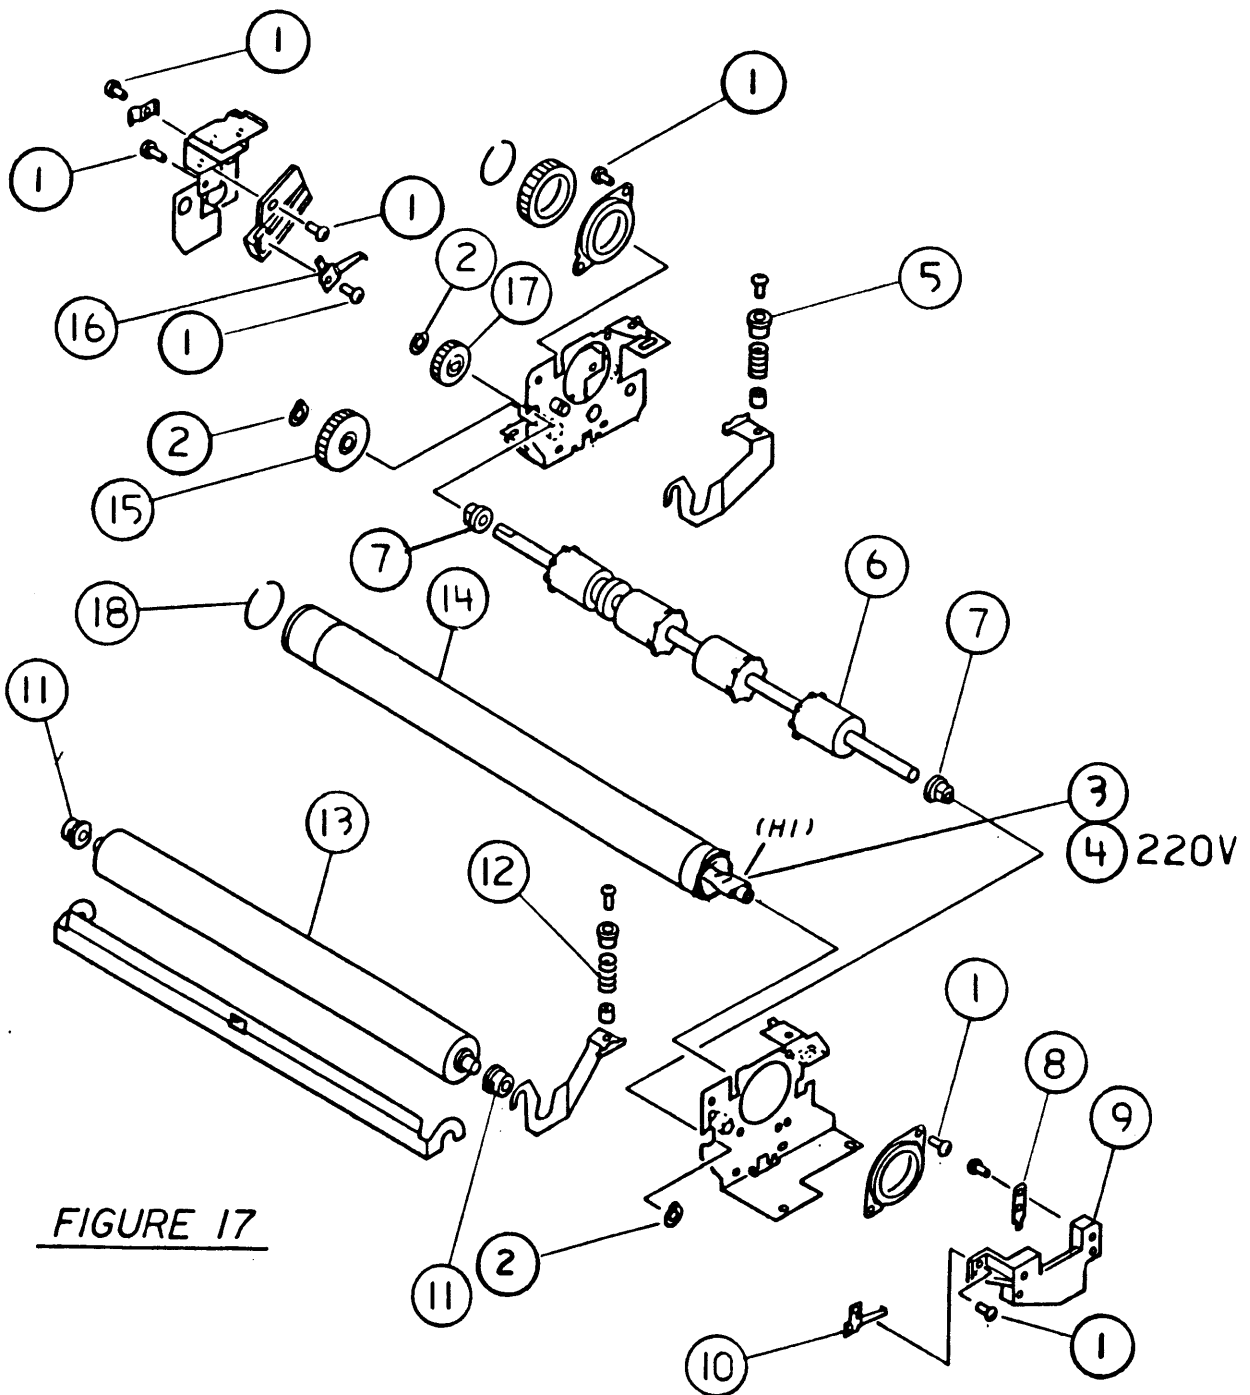

FIGURE 17
□ **LASERWRITER – FUSER ASSEMBLY (2 of 2) (Figure 17)**